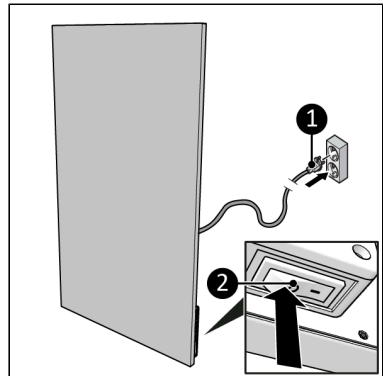

Figure 45.
2. Make sure the ON/OFF switch is in the OFF position (Figure 45, pos. 2).
3. Insert the power plug (Figure 45, pos. 1) into an earthed wall socket that is easily accessible. Use an earthed wall socket with a minimum power of 1000 Watt.